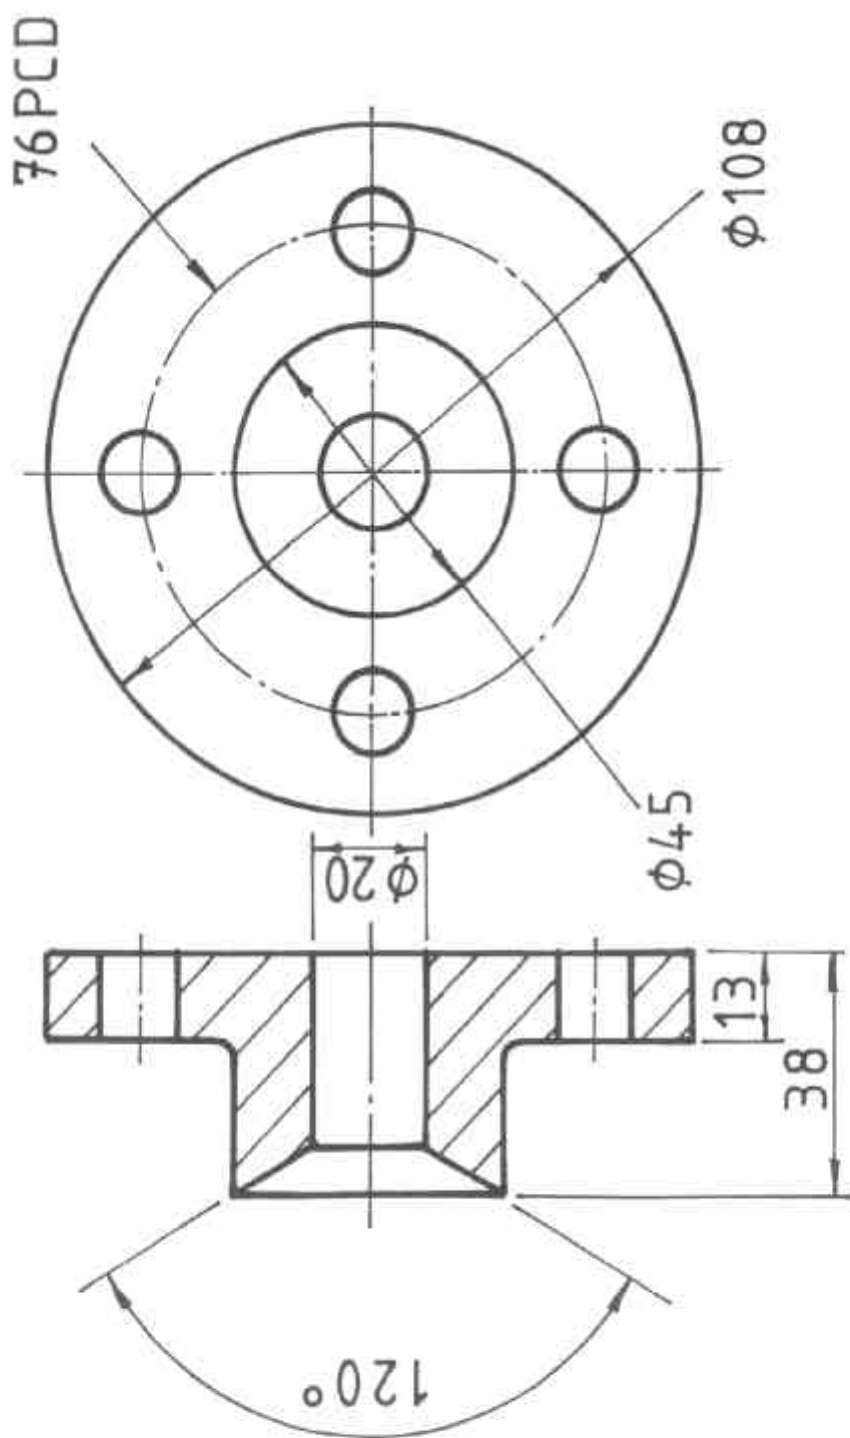

FIG. 6.1
- (a) List a selection of six commands necessary to produce the drawing in Fig. 6.1.
- (d) Which of the following would be the most suitable snap resolution for the drawing in Fig. 6.1: